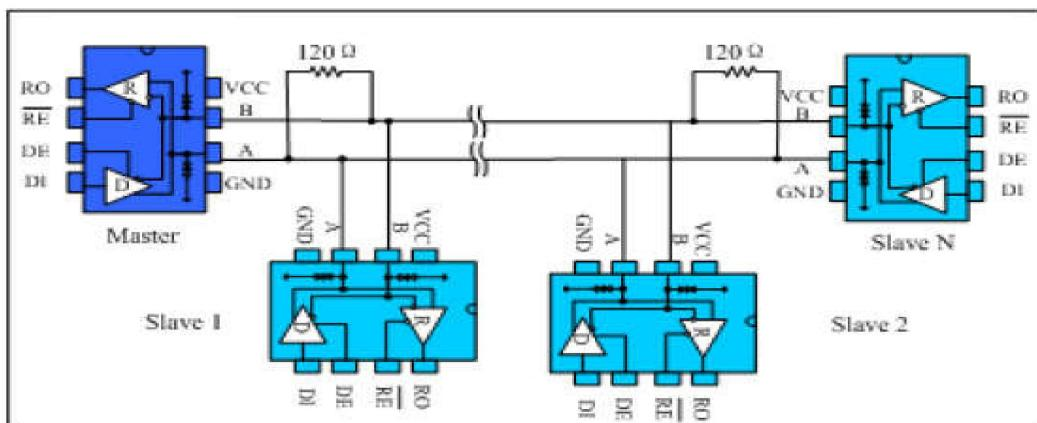

Fig. 9 Bus-type RS485 half-duplex communication network
4.1 Bus networking: The MAX481EESA-TD RS485 transceiver is designed for bidirectional data communication on multi-point bus transmission lines. Figure 9 shows a typical network application circuit. These devices can also be used as linear repeaters with cables longer than 4000 feet. In order to reduce reflections, terminal matching should be done at both ends of the transmission line with their characteristic impedance, and the length of the branch wires other than the main line should be as short as possible.